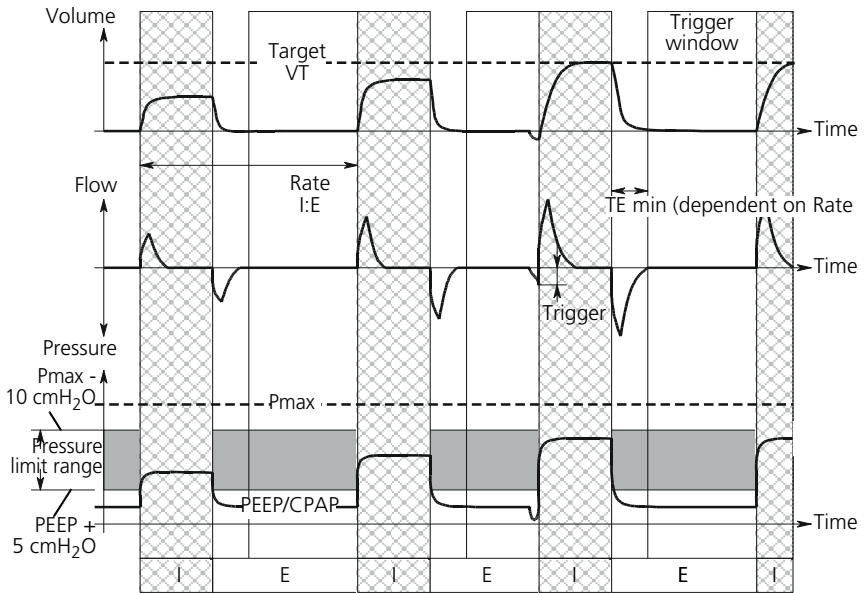

Figure B-5. Breath delivery by the RAPHAEL (S)CMV+ adaptive controller
The (S)CMV+ mode achieves control of tidal volume according to a new concept, the adaptive volume controller. The adaptive controller combines the advantages of pressure control ventilation with those of volume ventilation. For each breath, the adaptive controller compares the user-set tidal volume with the average of delivered and exhaled tidal volumes. The adaptive controller in turn adjusts the inspiratory pressure that will be applied during the next breath, in order to obtain the target volume. The inspiratory pressure is adjusted in steps, to a maximum of 2 cmH₂O per breath. The adaptive controller adjusts the inspiratory pressure so it is between (PEEP + 5 cmH₂O) and (P_{max} - 10 cmH₂O), to a maximum of 50 cmH₂O above PEEP (Figure B-5).